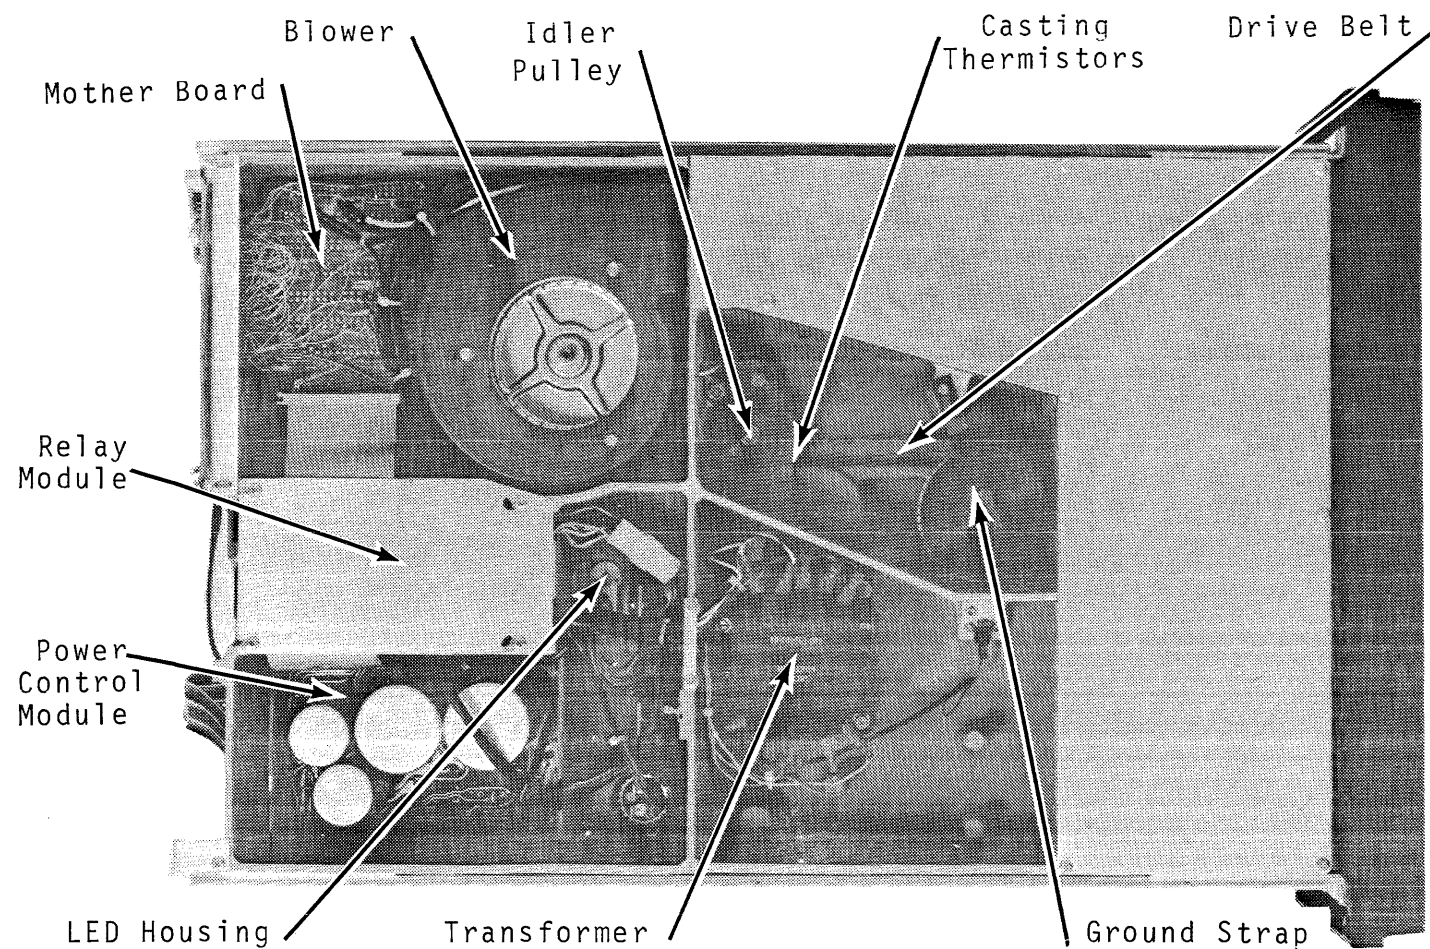

Figure 7-25. Model 206, Bottom View
7.5.19 Spindle Motor Belt (Refer to Figure 7-25.)